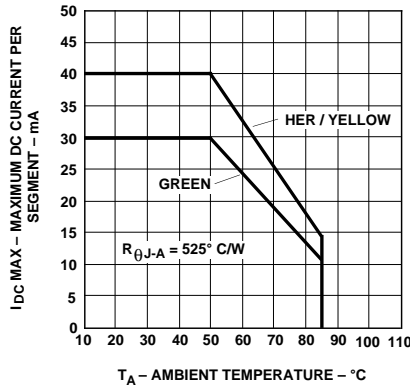

Figure 8. Maximum Allowable DC Current vs. Ambient Temperature.
5. See Figure 8 to establish pulsed conditions.